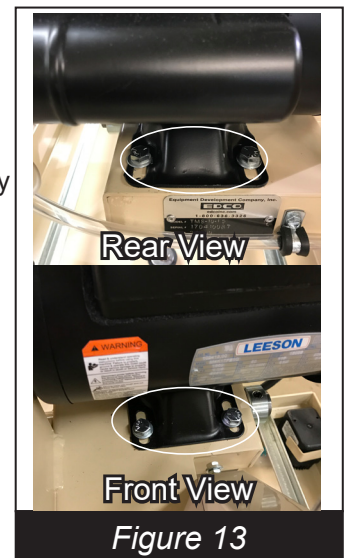

Figure 13
To tension or replace belt, loosen motor assembly bolts (4) circled in Figure 13 and slide motor assembly forward or back until belt is at proper tension or loose enough to remove belt.